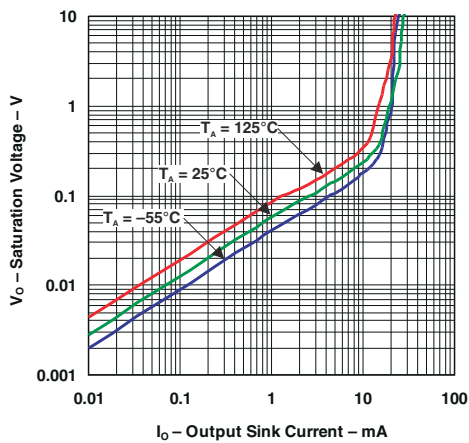

Figure 7-35. Output Saturation Voltage
- R_{CE} can be determined by taking the slope of Figure 7-35 in its linear region at the desired temperature, or by dividing the V_{OL} by I_{OUT}